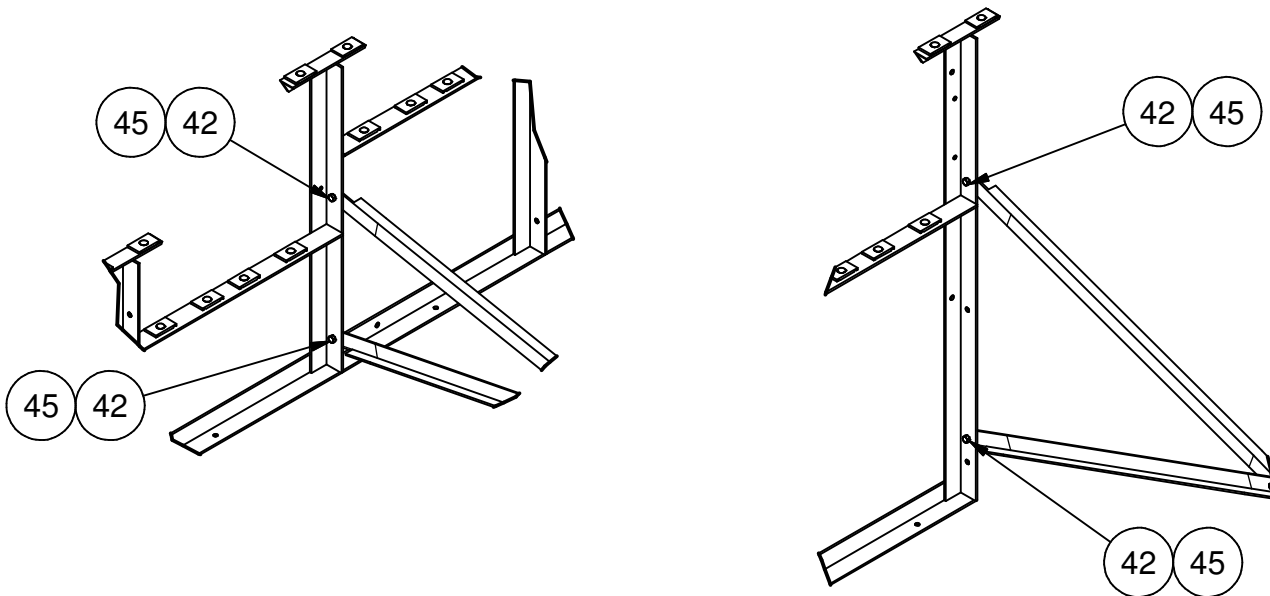

Figure 4
3. Lay out the Frame weldments approximately 6' apart. Refer to figure 3 for proper frame spacing. Install the brace sub-assemblies from step 2 using the 3/8" x 1" hex bolts and 3/8" whizlock nuts as shown in Figure 4. Cross braces are connected to the frames at verticals 3 and 5. Refer to figure 3 for item number and page 2 for brace angle length. NOTE: Cross braces are located in the end bays and either bay 2 or bay 3. Straight spacer braces are located in bay 2 or bay 3 at row 3 and row 5 only. If the cross braces are going to be located in bay 2, the straight braces must be located in bay 3. However, if the cross braces are going to be located in bay 3, the straight braces must be located in bay 2. After all braces are installed, square the frame and make sure the front of the frame is in line.